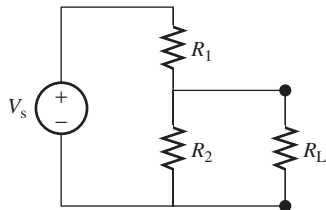

FIGURE P3.57 Circuit for Problem 3.57.
3.57 (A) Find the Thévenin/Norton equivalents for Figure P3.57.